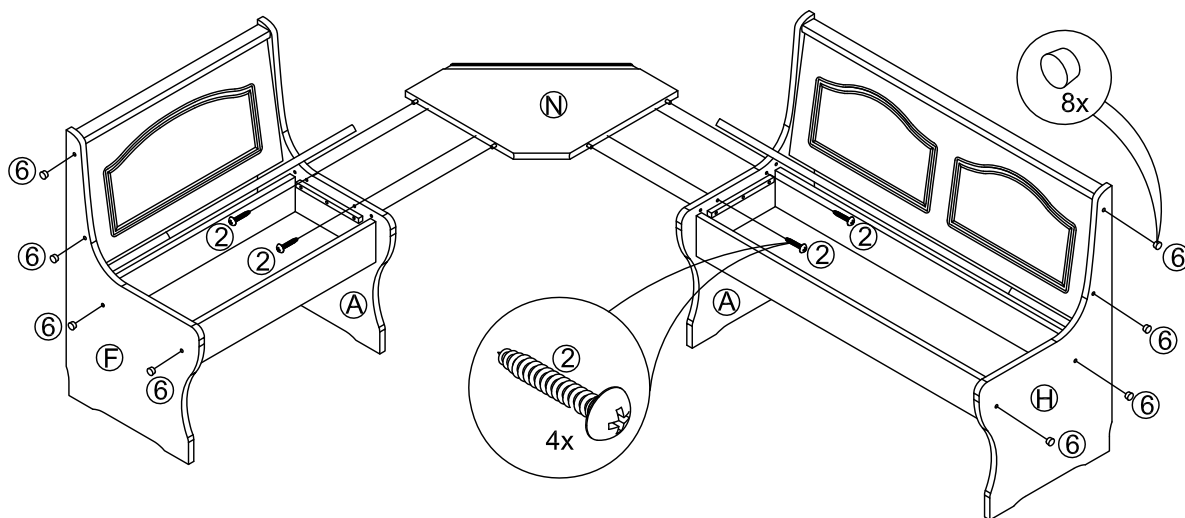

FIGURE 4
- 4.1 ATTACH CORNER SHELF #N TO MIDDLE LEGS #A (RIGHT AND LEFT), INSERTING WOOD DOWELS LOCATED ON CORNER SHELF EDGE INTO HOLES LOCATED ON SIDE OF MIDDLE LEGS. SECURE WITH (04) SCREWS ② USING PHILLIPS HEAD SCREWDRIVER (NOT PROVIDED). AS SHOWN IN FIGURE 4.
- 4.2 INSERT (08) WOOD HOLE COVERS ⑥ INTO HOLES LOCATED ON LEFT AND RIGHT OUTSIDE LEGS #F AND #H. AS SHOWN IN FIGURE 4.